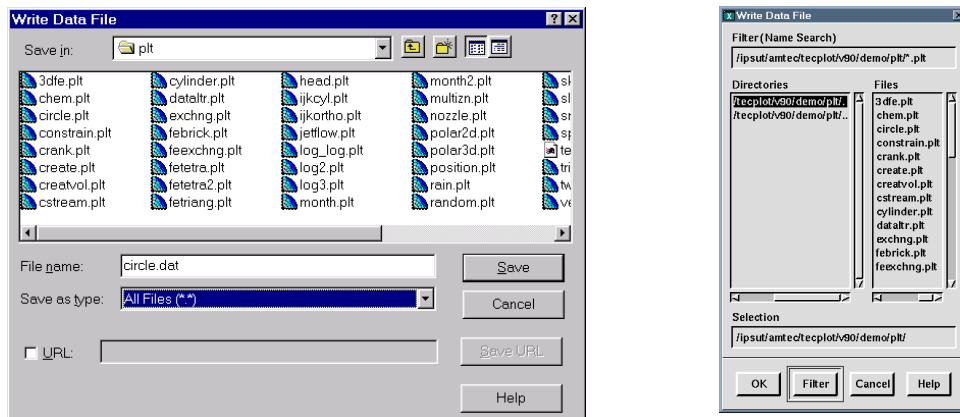

Figure 5-8. The Write Data File dialogs in Windows (left) and Motif (right).
8. Click OK; the Write Data File dialog appears, as shown in Figure 5-8.